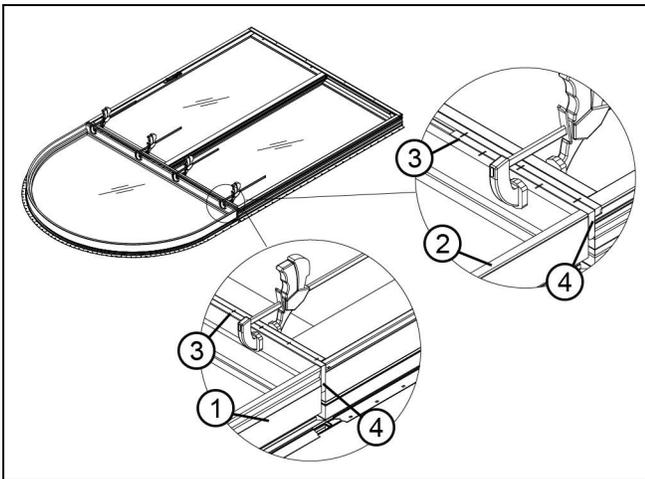

Figure 43
7. Apply additional clamps if necessary and fasten interior wood members with 1/2" x 1/2" 16 gauge staples spaced every 5" (127). See Figure 43.